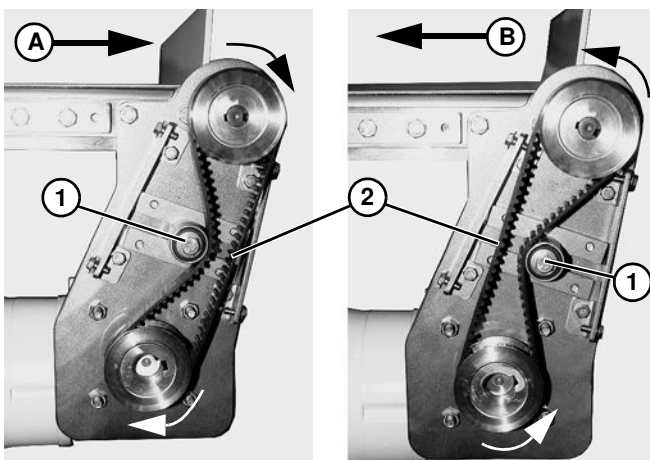
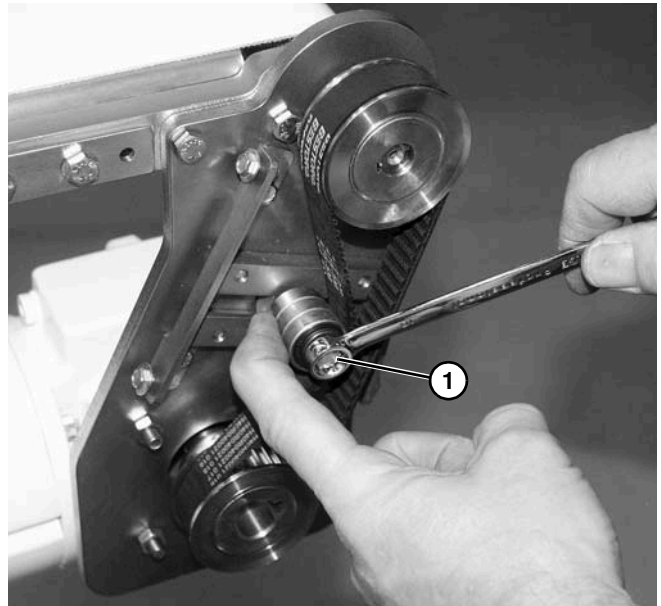

Figure 35
Figure 36
2. Depending on conveyor belt travel (direction A or B of **Figure 35**), locate timing belt tensioner (**Figure 35, item 1**) as shown. Do not tighten tensioner screw. Tension timing belt to obtain 3 mm (1/8") deflection for 4.3 N (1.0 lb) of force at timing belt midpoint (**Figure 35, item 2**). Tighten tensioner screw (**Figure 36, item 1**).